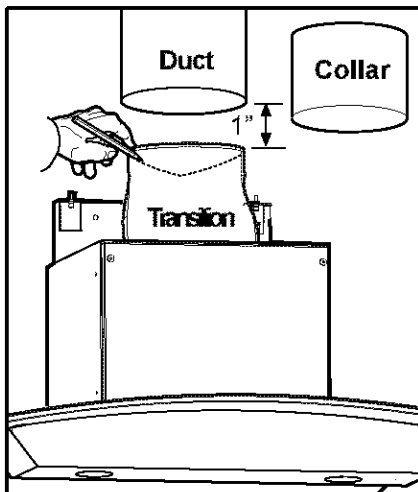

Figure 4
4. Connect ducting (Figure 4):
A 90° elbow may be installed immediately above the hood. For serviceability, a mounting similar to the straight up discharge shown in Figure 4 should be used.